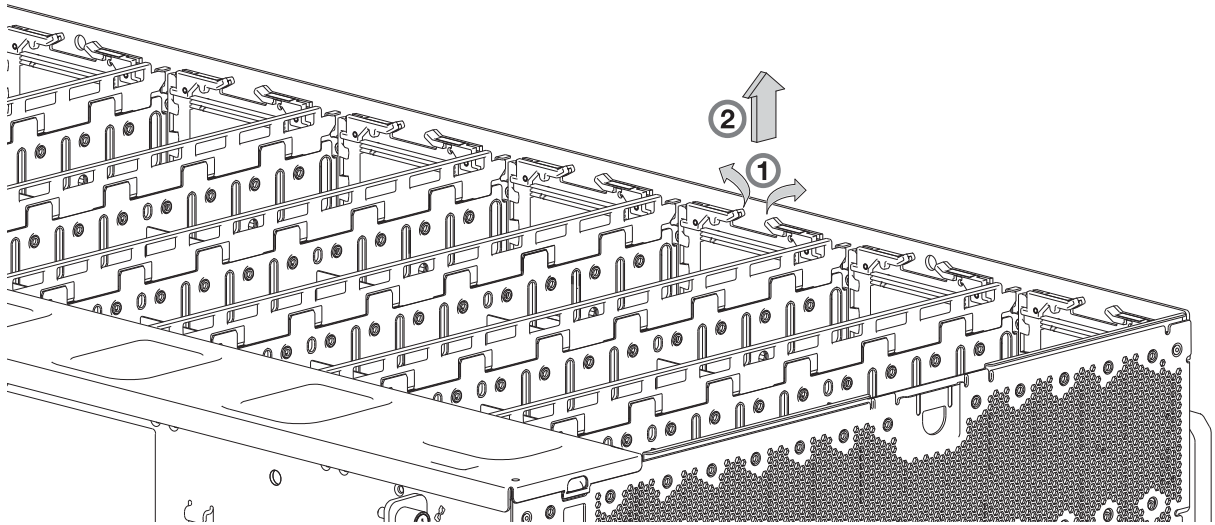
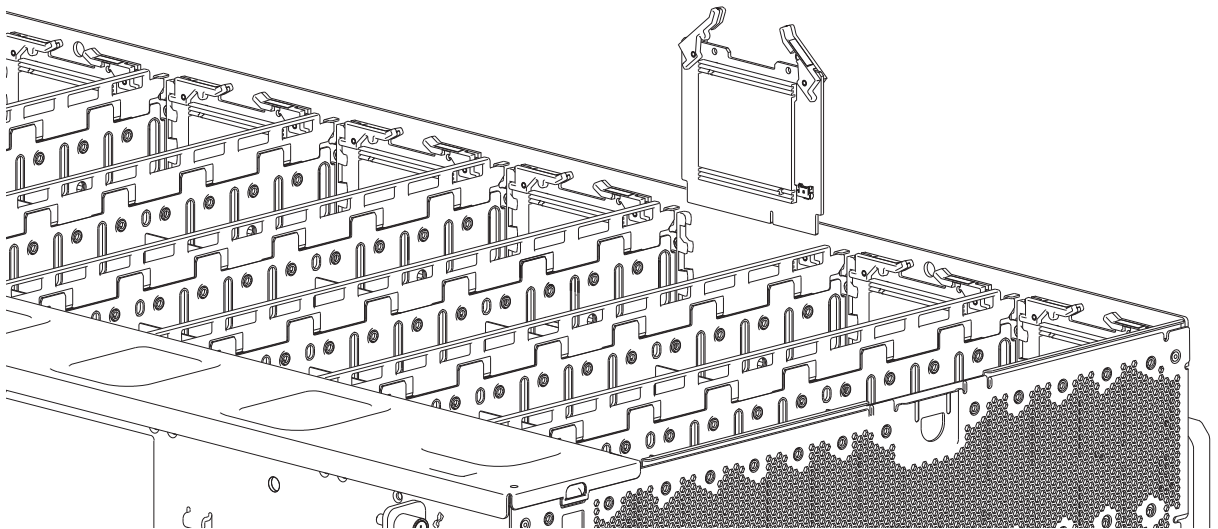

Figure 66 Removing a HS Expander (1 of 2)
Figure 67 Removing a HS Expander (2 of 2)
2. On the faulty HS Expander, grasp each of the two plastic swing-arms between thumb and index finger as shown in Figure 66.
3. Revolve each swing-arm upward to release the PCBA carrier from its slot as shown in Figure 67.
Refer to Figure 66 and Figure 67 when performing this procedure, but ignore the directional arrow. You will insert the module into the slot rather than remove it.